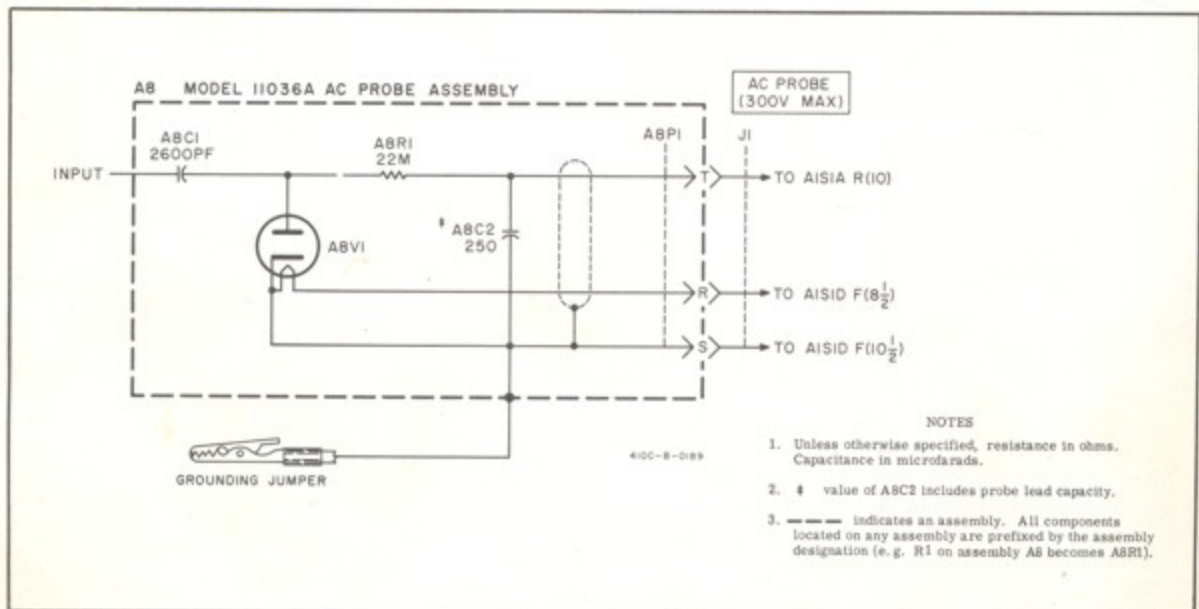

Figure 5-13. Model 11036A AC Probe Schematic
0.5 and 1.5 VAC range will not track.	Check A8V1 (Figure 5-13). Substitute known good ac probe.